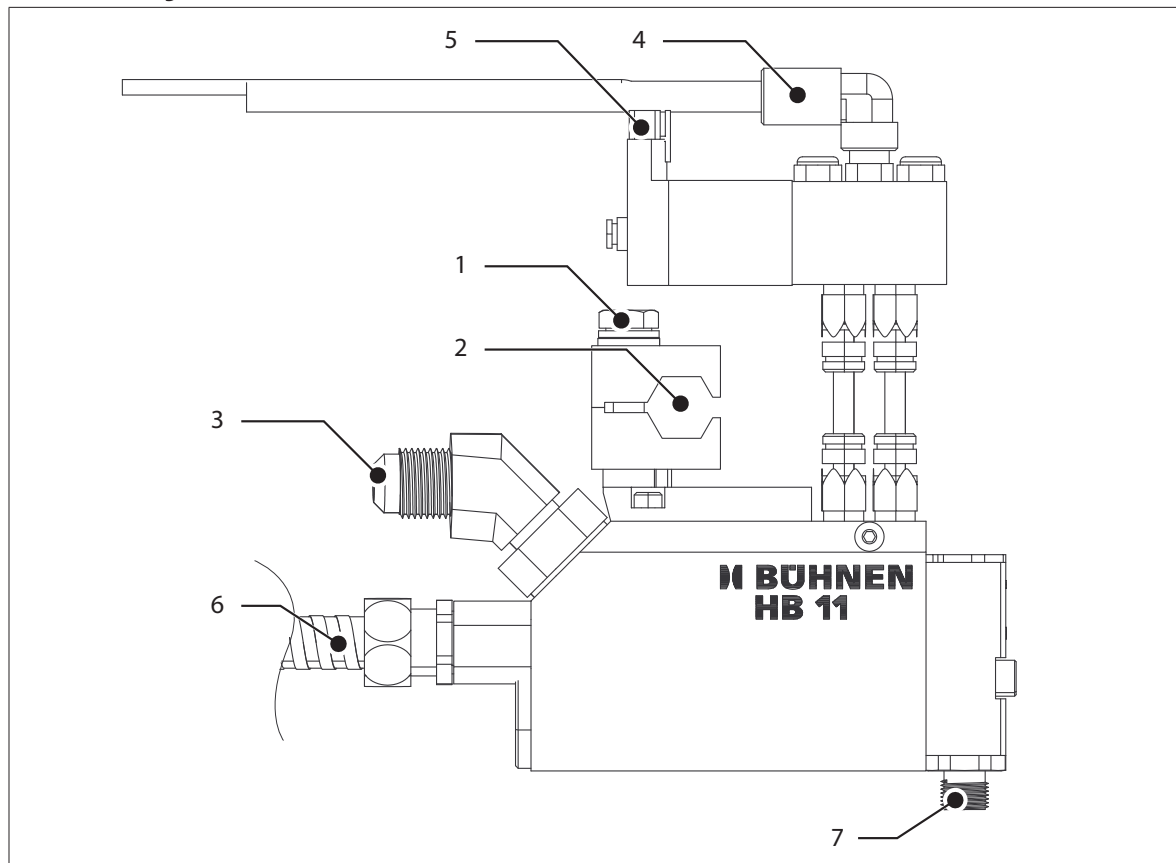
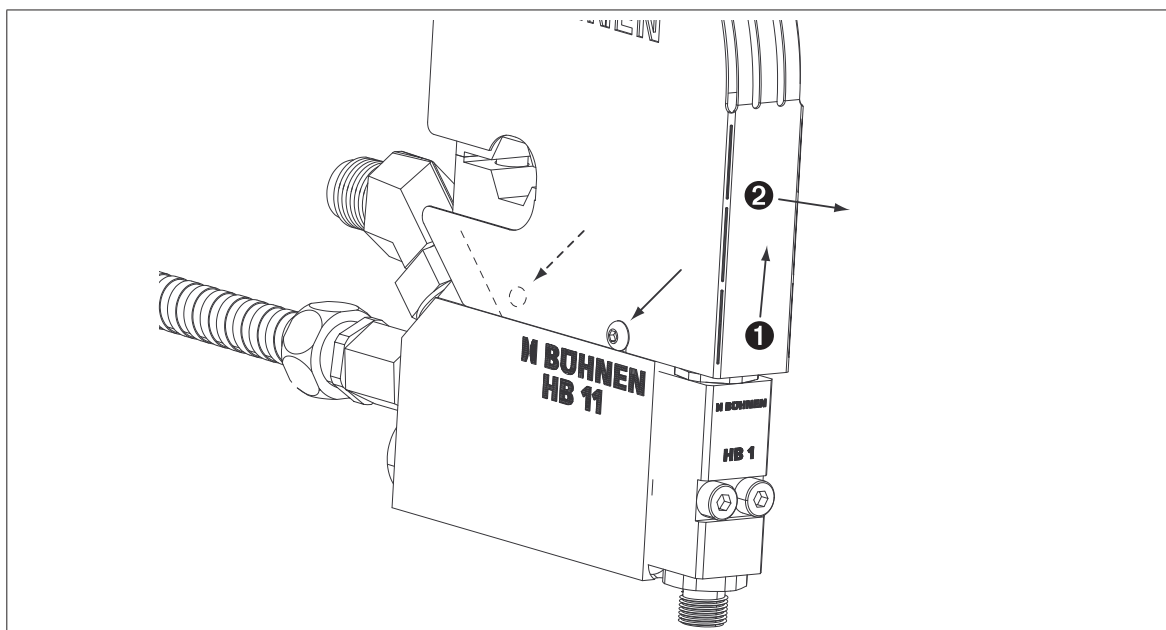

Figure 2: Connections HB 11
Figure 3: Release the hood
1. To release, turn the screws shown in *Figure 3* 2-3 revolutions using an Allen key (2 mm).
2. Slightly raise the covering cap (❶) and pull off towards the front (❷).
3. Release screw (1) (see *Figure 2*) with an open-end wrench (size 10).
4. Push the opening (2) of the clamp over the holding rod (11...12 mm Ø).
6. Tighten the screw (1).
3. Insert the plug (5) (see *Figure 2*) of the cable for the activation of the solenoid valve.
5. Connect the plug-in connector at the end of the cable (6) to the mating connector at the heatable hose.
Connect the compressed air supply (quick coupler PK4) to the connection (4) (see *Figure 2*).
3. Screw on the heatable hose with connection (3) (see "*Figure 2: Connections HB 11*" on page 6).
After placing and screwing on the hood (see *Figure 3*), assembly is completed.